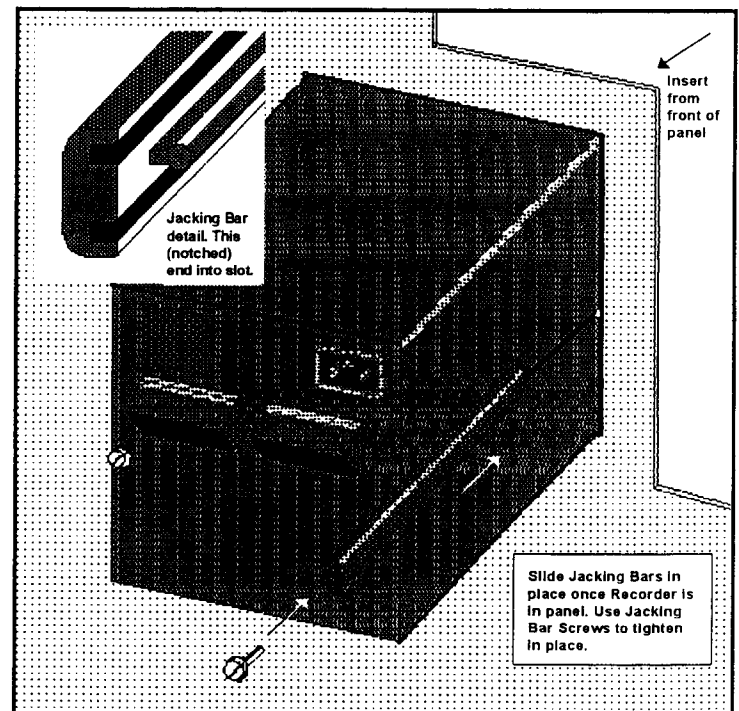

Figure 2-3 Mounting in Panel
2.2.1.6 With the Recorder held firmly in place against the panel, install one of the Jacking Bars, by locating the circular end of the retaining rib in the center of the Jacking Bar, into the slot on the side of the Recorder Panel. **Note: The end of the Jacking Bar rib which is notched back must be inserted into the slot.** Refer to Figure 2-3 opposite for detail.